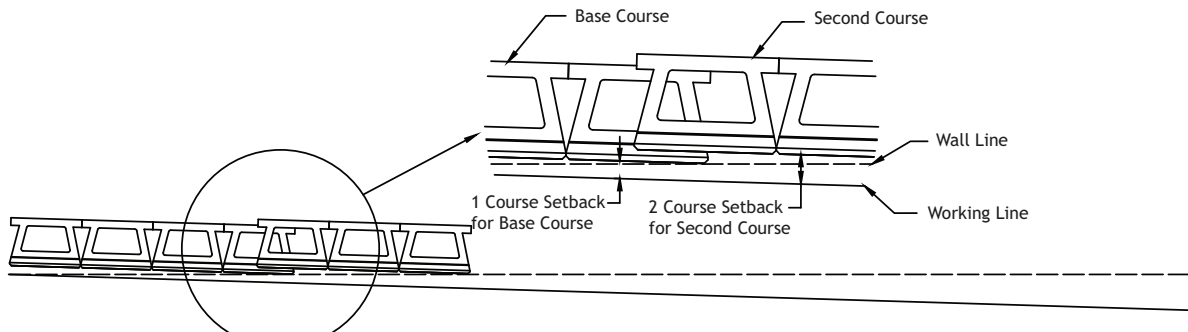

Figure 4: Installing the Second Course
- When your base course meets the Wall Line, it should be time for a step-up. Start constructing the second course as described in the AB Commercial Retaining Wall Manual on top of your compacted base. This course will be built using the setback shown for 2 block heights in Table 1. Referring to Figure 4, our example wall would be set back 1 5/8 inches (43 mm) from the Working Line.